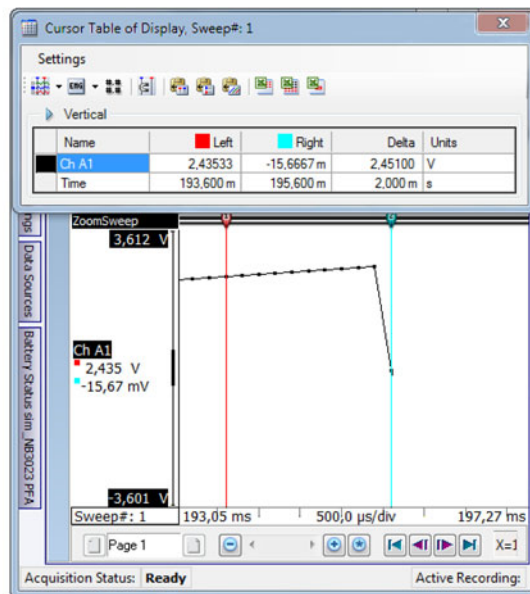

Figure G.9: Sample recording 1
- Next sample recorded (sample of blue cursors, see Figure G.9)